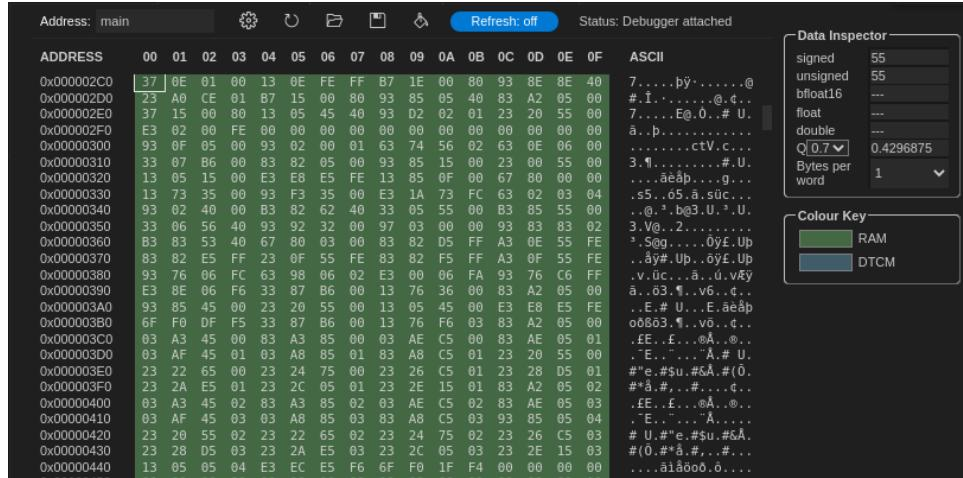

Figure 51: Catapult Studio Memory Window
- d. Choose the address of one of the instructions in your code, as displayed in the Disassembly window, and type it into the Start Address box of the memory window. You should see the same data as shown in the Disassembly Window (Figure 51).